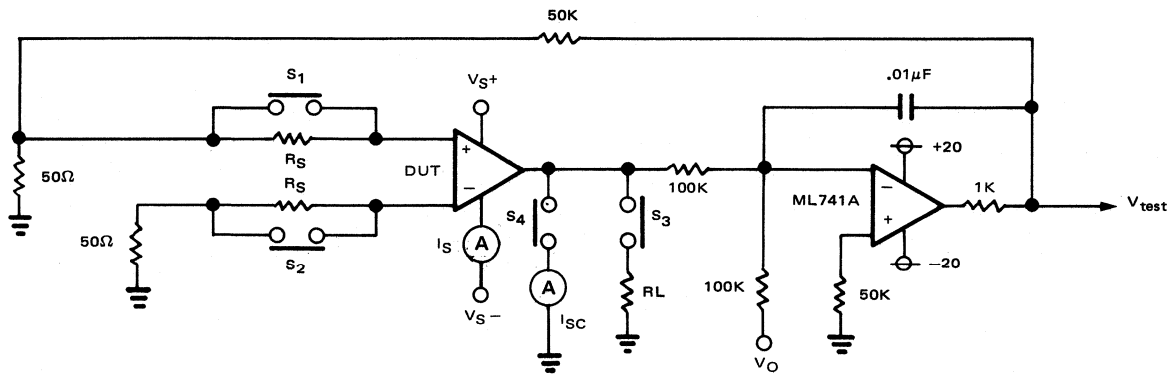

FIG. 1. TWO-AMPLIFIER GAIN STAGE
3. CIRCUIT DESCRIPTION (See Fig. 1)
The following circuit when connected to the output of the test circuit of Fig. 1 will perform a different function for ΔV_{iO} measurements. The "zero" switch is closed during the initial measurement and opened before the second measurement. The output is then the difference between measurements.